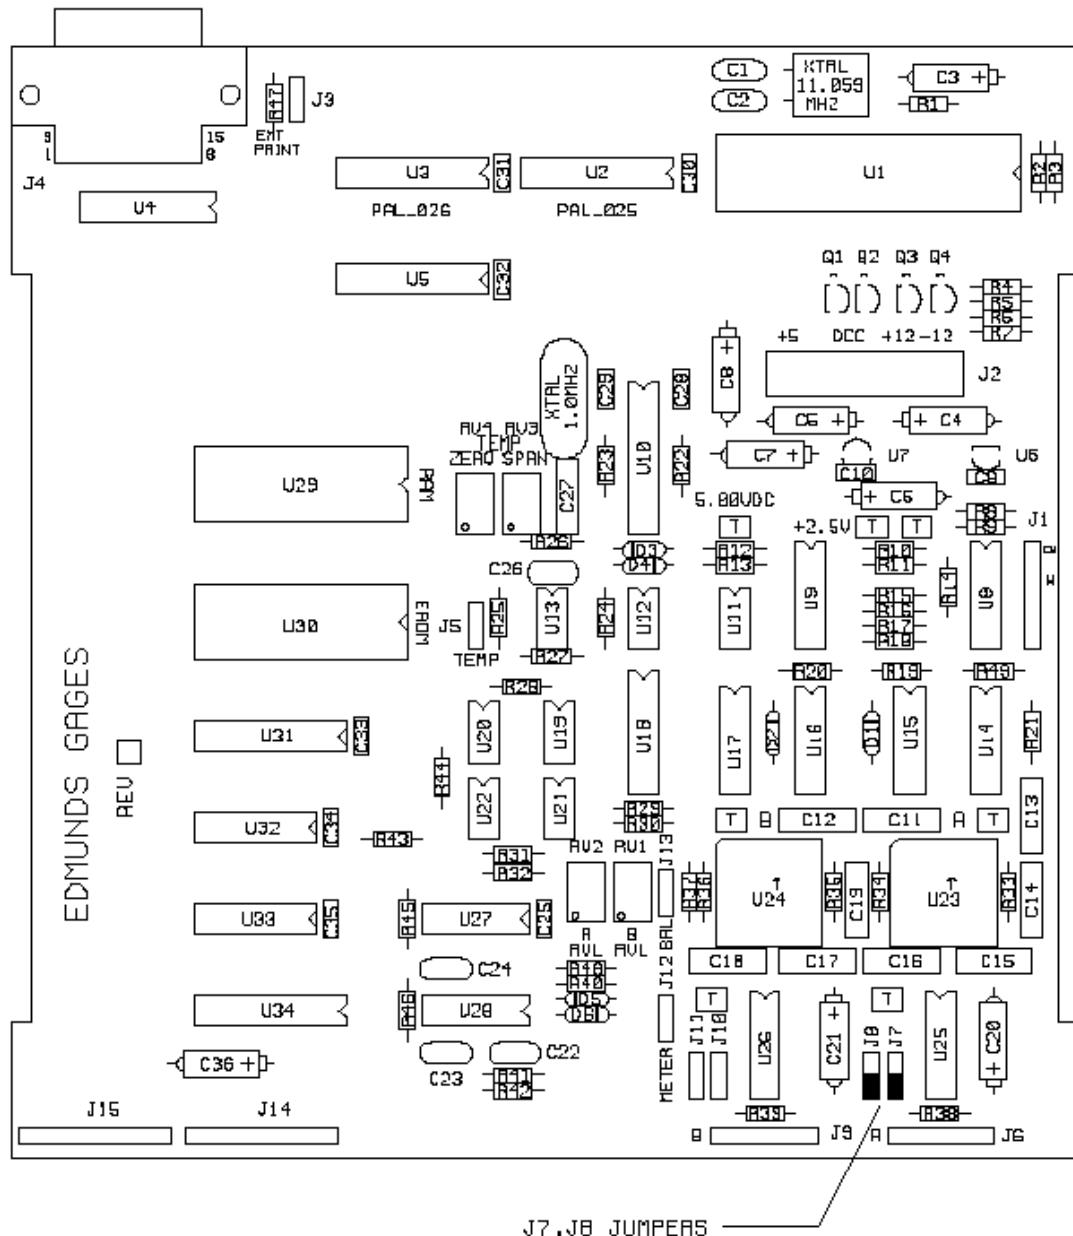

Figure 10 – Internal Circuit Board
Cabinet disassembly is performed on a soft surface with the cabinet placed on its top. Remove the (4) Phillips head screws from the bottom of the cabinet. Turn the unit over and remove the top. The jumpers are located near the face of the front panel. (See Figure 10 Internal Circuit Board for reference).